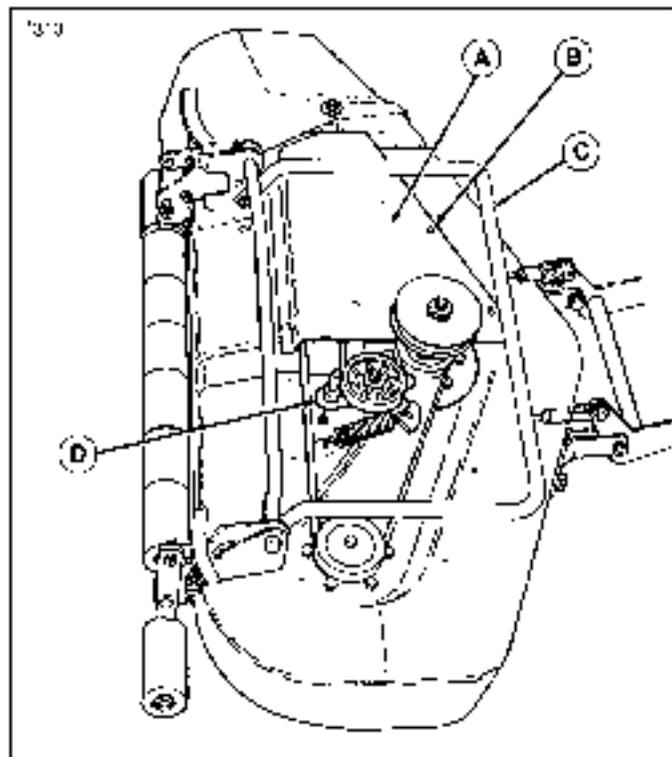

Figure 8. Idler Pulley Pivot (48" Mower Shown)
3. Remove the taprite screws to remove the right hand cover (both covers can be removed to check/clean inside of mower deck.) See figure 8.